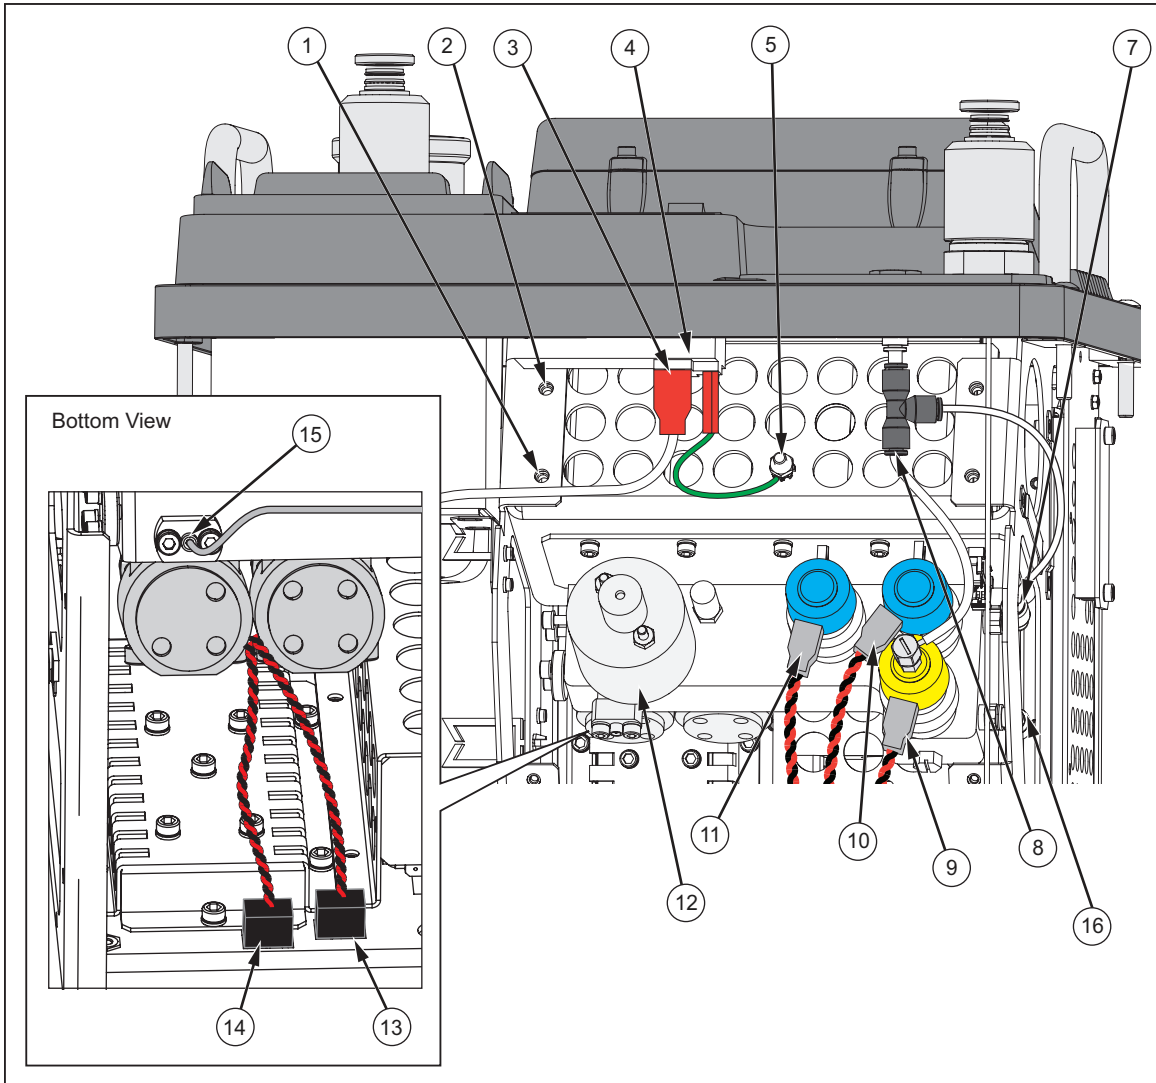
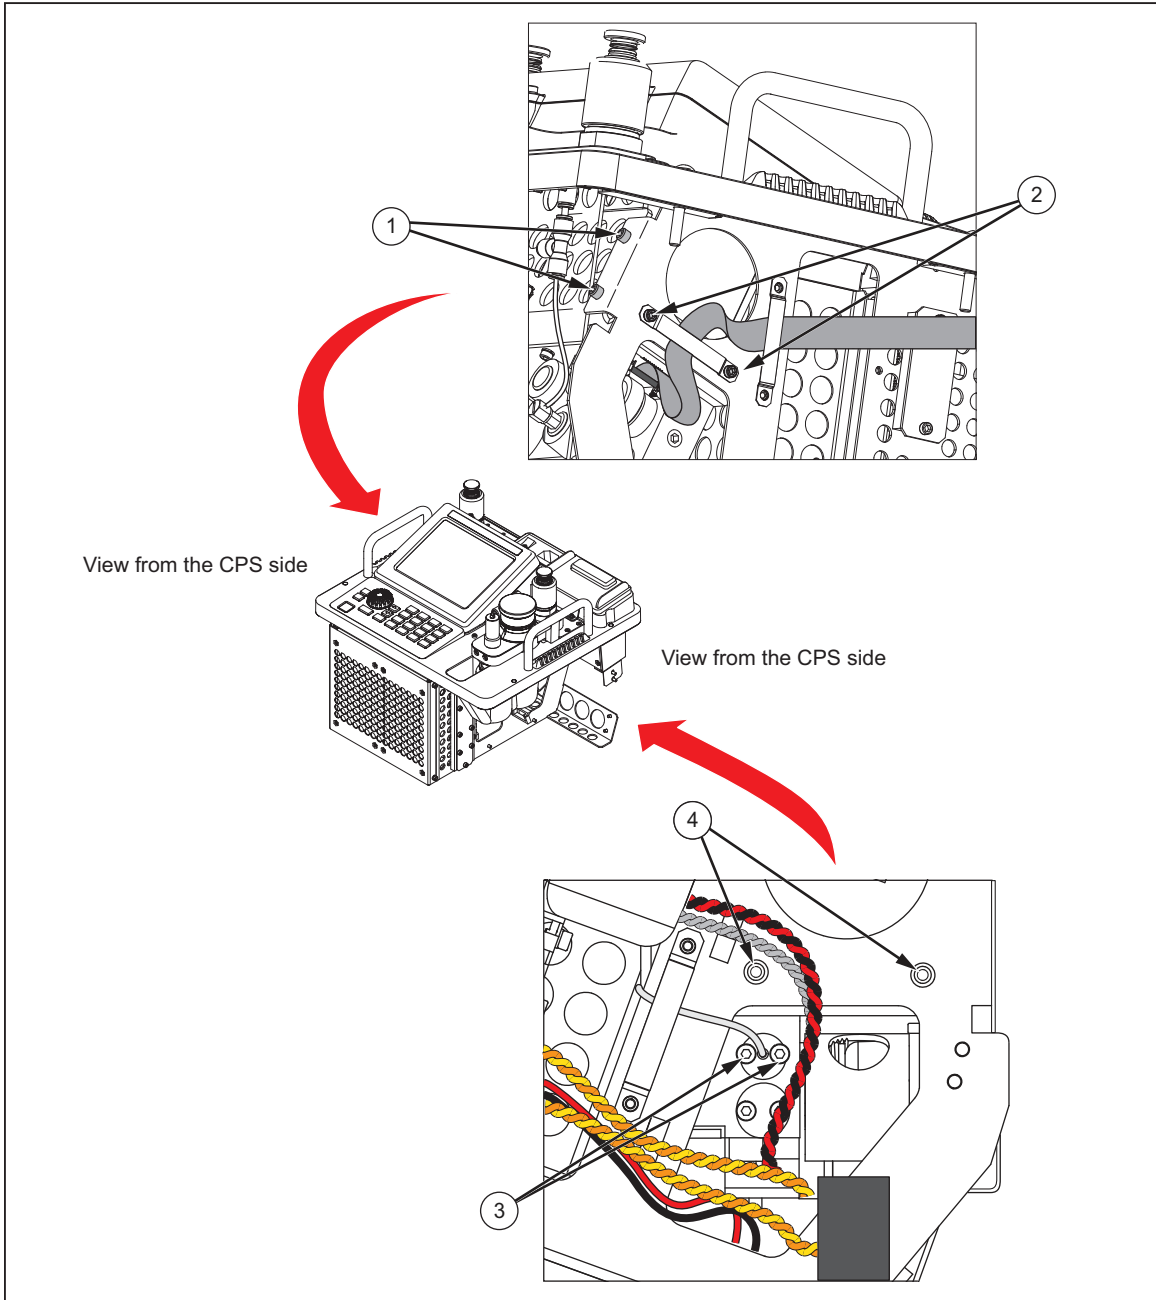

Figure 4-8. Pressure Line and Power Lines
Figure 4-9. Manifold Removal
Use the following instructions and reference Figures 4-8 and 4-9 to extract the manifold assembly from the chassis.
2. Disconnect the pressure lines and electrical connections in order to remove the manifold assembly as follows (see Figure 4-8):
- a. Remove the two screws and washers (① and ②) that secure the fan bracket (not shown) to the manifold assembly. This bracket covers the NC isolation valve (⑫) on the manifold assembly.
- b. Disconnect the vent lines (⑦ and ⑧) that connects to the control panel atmosphere vent fitting. Disconnect the Barometer tube line (⑯) from the side of the manifold.
- c. Put the Controller face down and remove PV1 (⑬) and PV2 (⑭) electrical connectors.
- d. Disconnect the electrical connectors to valves V7, V6, and V5 (⑨, ⑩, and ⑪). Also disconnect the NC valve cable (⑫) from the main PCA (not shown) labeled as "VH1" on the board. Pry off the anti-vibration cover from the J1 connector and remove the ribbon cable connector from the backplane PCA.
3. Prepare the manifold assembly for extraction as follows (see Figure 4-9):
- a. Remove the two screws that secure the output tube-weld (③) on the manifold that that connects to the CPS dock.
- b. Remove the two screws and washers (④) that secure the right side of the manifold to the chassis (one screw is button head to accommodate clearance for the communication box).
- c. Remove the four screws and washers (① and ②) that secure the left side of the manifold to the chassis.
Use the following instructions and reference Figures 4-8 and 4-9 to put the manifold assembly into chassis.
2. Install the two screws and washers (④) that secure the right side of the manifold to the chassis (one screw is button head to accommodate clearance for the communication box). See Figure 4-9.
3. Install the four screws and washers (① and ②) that secure the left side of the manifold to the chassis.
4. Install the two screws that secure the output tube-weld (③) on the manifold that that connects to the CPS dock (see Figure 4-9).
5. Connect the pressure lines and electrical connections in order to remove the manifold assembly as follows (see Figure 4-8):
- a. Install the two screws and washers (① and ②) that secure the fan bracket (not shown) to the manifold assembly. This bracket covers the NC isolation valve (⑫) on the manifold assembly. The M4 x 12 is used for the ferrite clamp.
- b. Connect the ground wire (⑤) from the manifold assembly.
- c. Install the vent line (items ⑦ and ⑧) that connects to the control panel atmosphere vent fitting and ensure the line from the manifold to the barometer manifold is reconnected.
- d. Put the Controller face down and connect the PV1 (⑬) and PV2 (⑭) electrical connectors.
- f. Connect the N, L, and G wires (③) to the power entry module (④).
**To prevent the risk of electric shock, the protective earth ground (⑤) must be installed as shown in Figure 4-8.**
- g. Connect the electrical connectors (⑨, ⑩, ⑪, and ⑫).